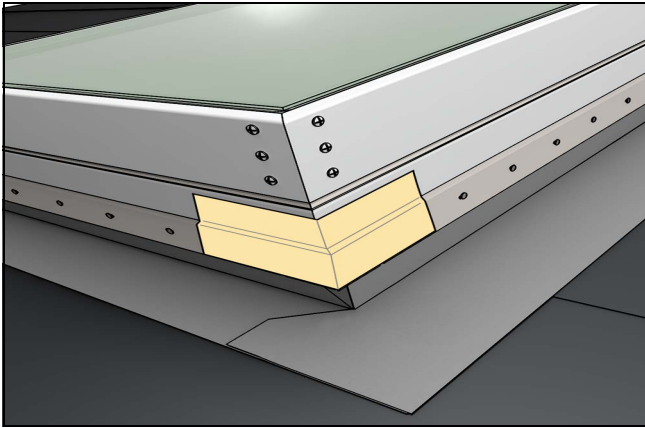

Figure 42
13. Apply flexible adhesive flashing tape to each corner by mounting flange, stay below the weather accessory kerf. See Figure 42. Flexible flashing should extend from corner at least 4" in each direction.